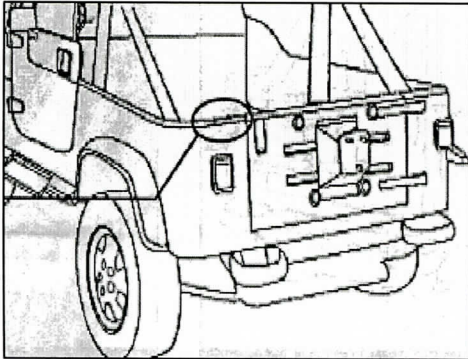

Figure 9
9. Locate Passenger Tailgate Bracket, (2) – M5 x 16mm Phillips Machine Screws, (2) – M6 star lock washers, (2) – M5 Flat Washers and (2) – M5 Nylock Nuts. In some cases the holes on the Tailgate Bracket will line up with existing holes. In this case, use the existing holes as pilots to drill 3/16" holes on the vehicle. **NOTE:** Carefully check under the drilling area to be sure you do not drill into any concealed wiring. **NOTE:** If you are replacing a hardtop, use the Tailgate Bracket as a template to drill 3/16" holes. Position Tailgate Bracket and secure it by using the hardware listed in this step (Figure 9 & 10). Repeat this step for opposite side.